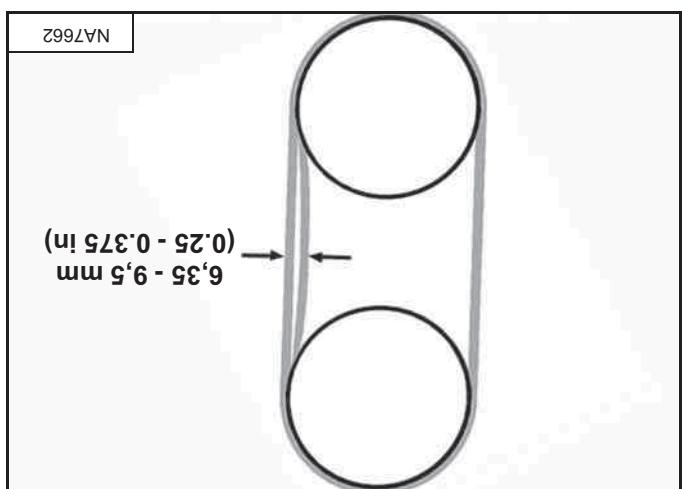
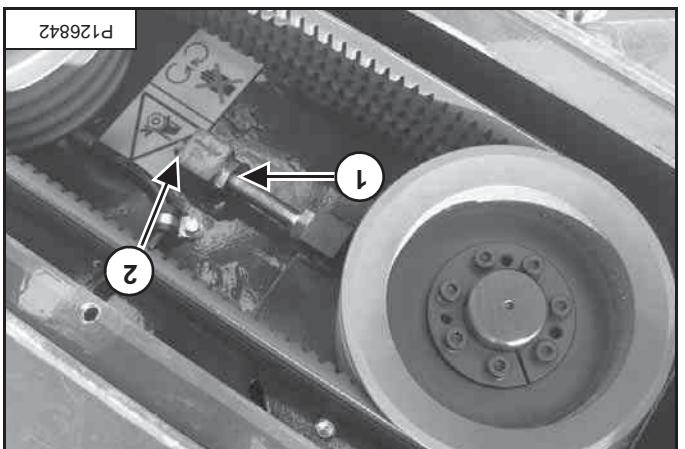

Figure 108
Figure 107
Check the belt tension by pressing forcefully on the belt. The belt should move between 6,35 mm - 9,5 mm (0,25 - 0,375 in) [Figure 108].
Once correct belt tension is obtained [Figure 108], tighten the lock nut (item 1) [Figure 107].
Loosen lock nut (item 1) then tighten the tension nut (item 2) until the correct belt tension is obtained [Figure 107].